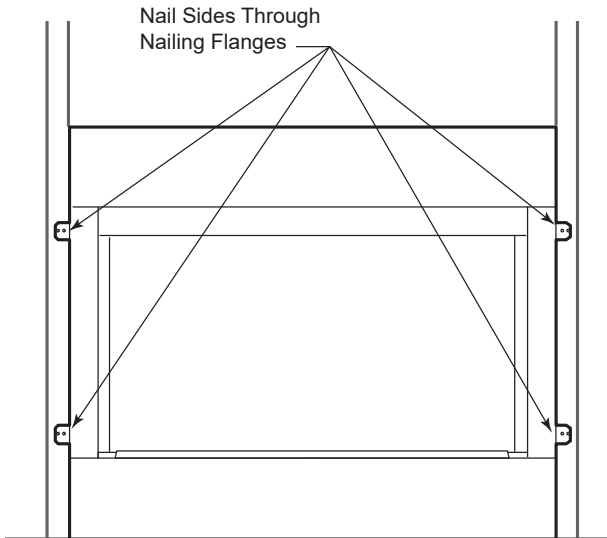

Figure 9 - Location of Nailing Flanges
4. Anchor firebox to the side framing members using 8d nails or other suitable fasteners. *Figure 9.*